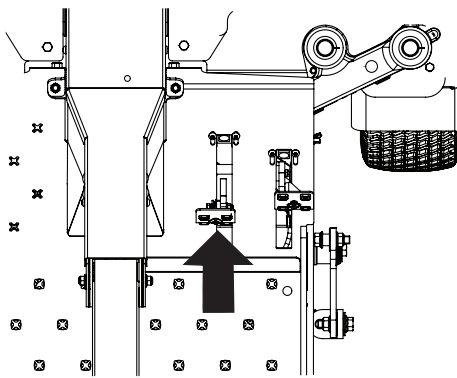

Figure 24
1. Slowly push the forward drive pedal forward. The mower will start to move forward. See Figure 24.